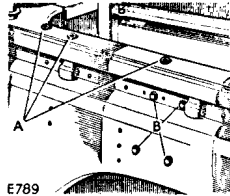

Fig. 123. Holes for angle framework and aerial bracket
- (10) Remove the six nuts and bolts or grommets from the holes in the side cappings of the vehicle, adjacent to the table top, for the slotted angle framework. Fig. 123.
- (11) Fit the slotted angle framework. Secure the table top earth braid by the rear bolt of the forward stay. The braid locates on the top of a shake-proof washer. Ensure that the earth connections are clean and tight.
- (12) Remove the four nuts and bolts or grommets from the holes (Fig. 123 (B)) in the two side plates for the aerial mounting bracket. Left-hand side for one H.F. set.
- (13) Fit the aerial mounting bracket/s.
- (14) Locate the aerial base mounting in the boss on the bracket and secure by the captive screw. Use a tommy bar to tighten the screw.